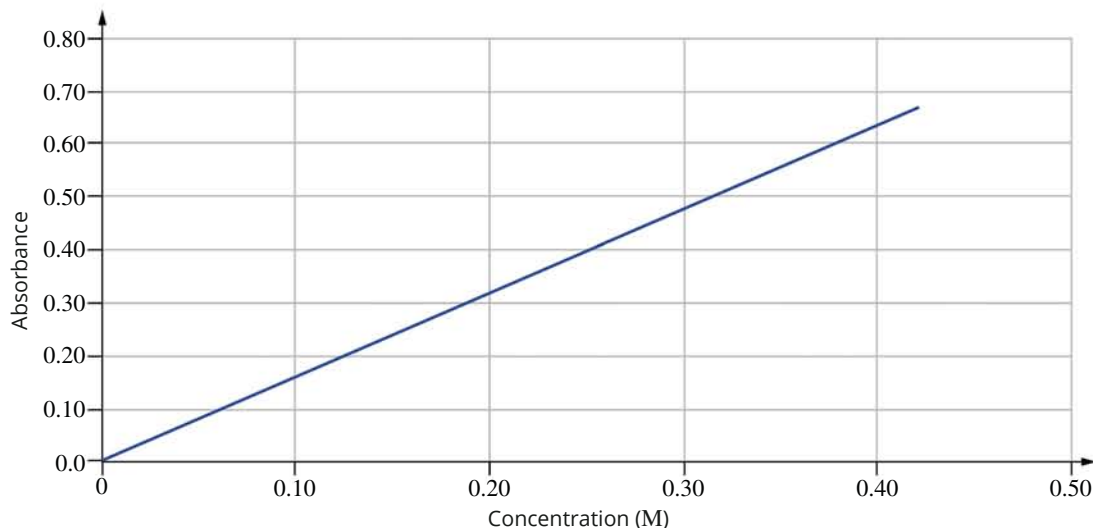

FIGURE 18.4.11
- 4 A colorimeter is used to analyse the concentration of iron(II) ions (Fe^{2+}) in the water in a tank. The calibration curve in Figure 18.4.11 is obtained from measuring the absorbance of a series of standards.